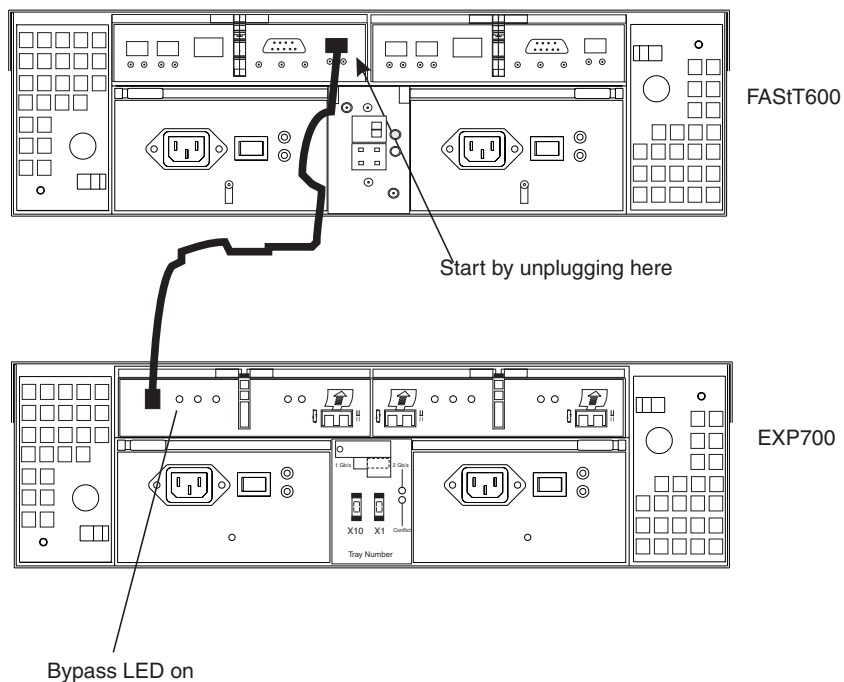

Figure 161. Copper cable and bypass light
1. Unplug one end of the FC copper cable in the loop element that has the bypass indicator light on. You can start at either cable end. For this example, start by unplugging the end that connects to the controller. See Figure 161.